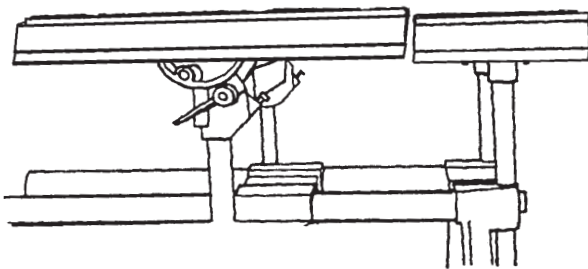

Figure C-56
70. The worktable should already be mounted in the carriage mount. Move the worktable next to the extension table and adjust it to about 1/4" above the extension table, as seen in Figure C-56.